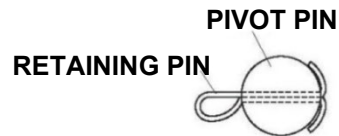

Figure 5
- Make sure all twenty-four (24) pivot pins are in position and that all retaining pins are assembled correctly (Figure 5).